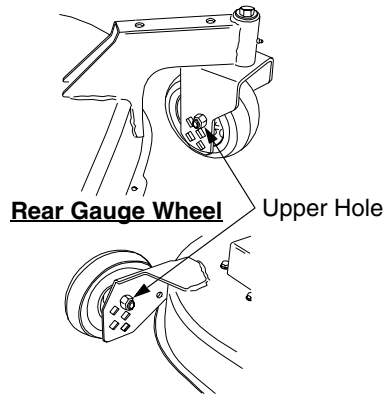

Figure 40
3. Check the caster wheel and gauge wheel settings on the deck. If necessary, remove the hex cap screws and nylon lock nuts, and adjust the wheels to their highest setting (lowest deck setting). See Figure 40.